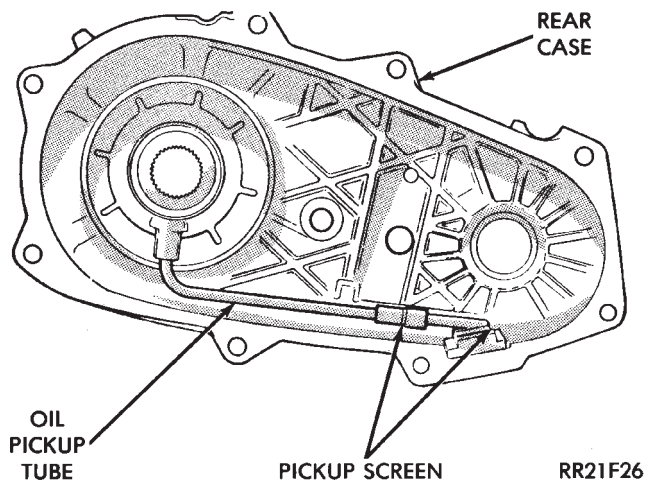
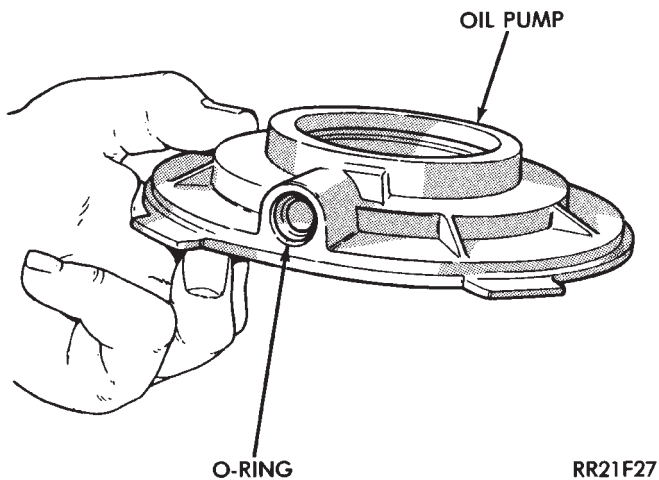
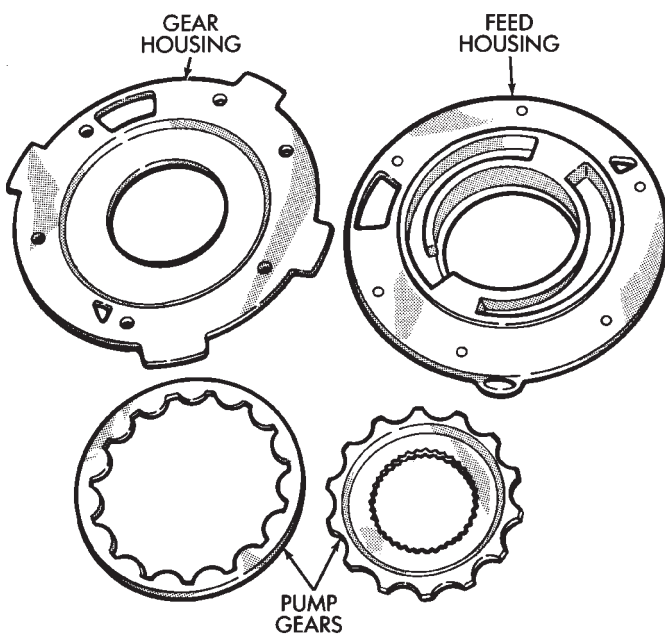

Fig. 6 Removing Oil Screen And Pickup Tube 16
Fig. 7 Pickup Tube O-Ring Location
Fig. 8 Oil Pump Components
(12) Slide oil screen out of case pocket. Disconnect screen from pickup tube and remove screen (Fig. 6).
(13) Remove pickup tube from oil pump (Fig. 6).
(14) Remove oil pump from rear case.
(15) Remove pickup tube O-ring from oil pump (Fig. 7).
(16) **The oil pump can be disassembled for cleaning and inspection as described in steps (17 and (18). However, the pump parts are not serviceable separately. If any pump component is worn, or damaged, the pump must be replaced as an assembly.**
(17) If oil pump will be disassembled for inspection, mark position of oil pump housings for reference (Fig. 8). Remove screws that attach two halves of the pump. Then remove feed housing from gear housing (Fig. 8).
(18) Mark position of pump gears and remove them from housing (Fig. 8).